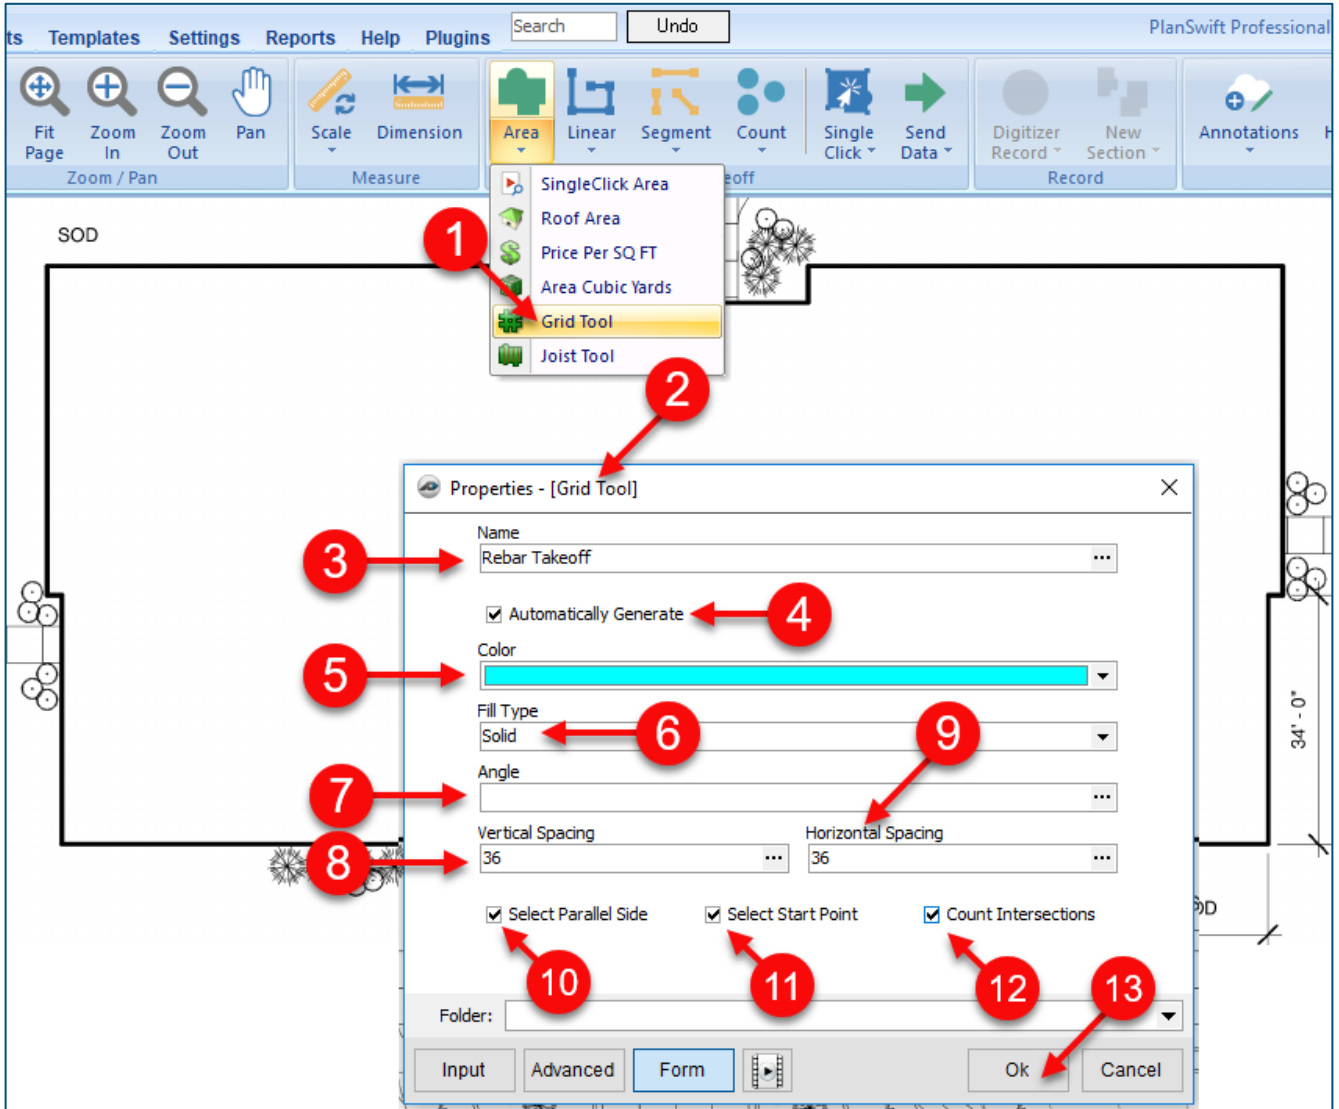

Figure 35-A
14. Perform the steps to do an area takeoff, then right-click and select **Stop** (Fig. 35-B).